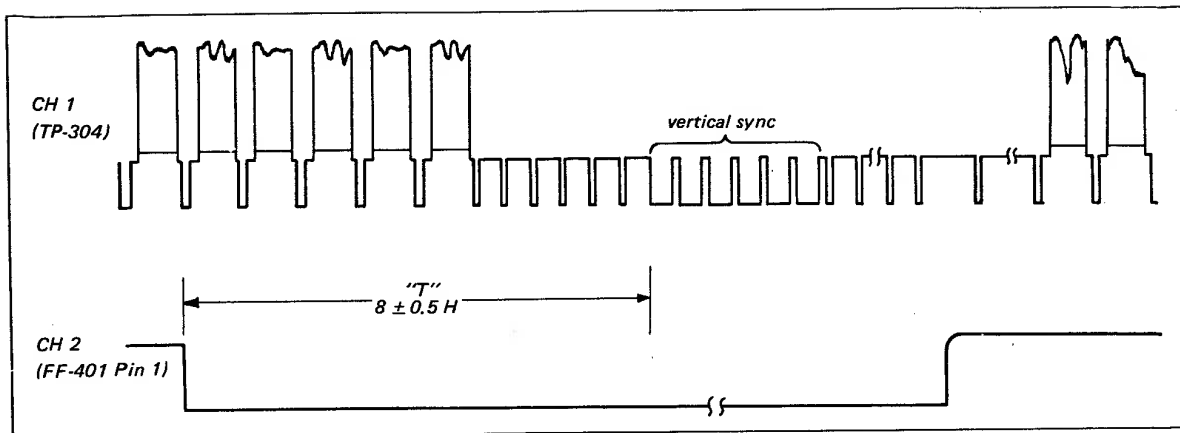

Fig. 6-7. 30 PG coil position
See Fig. 6-7
4. Pull out the 5X magnifier and adjust the POSITION control to observe the second vertical blanking interval as shown in Fig. 6-7.
5. Check that the interval "T" shown in Fig. 6-7 is $8 \pm 0.5 H$ (horizontal lines).
- reposition the coil. If "T" in Fig. 6-7 is more than $8 \pm 0.5 H$, move the coil slightly to the left (in the direction of scanner rotation). If "T" is less than $8 \pm 0.5 H$, move the coil to the right. Be very careful when adjusting coil position. Make sure that the gap between the coil poles and the rotating pole piece remains the same. Also, make sure that the coil poles and the rotating pole pieces line up when viewed from above.